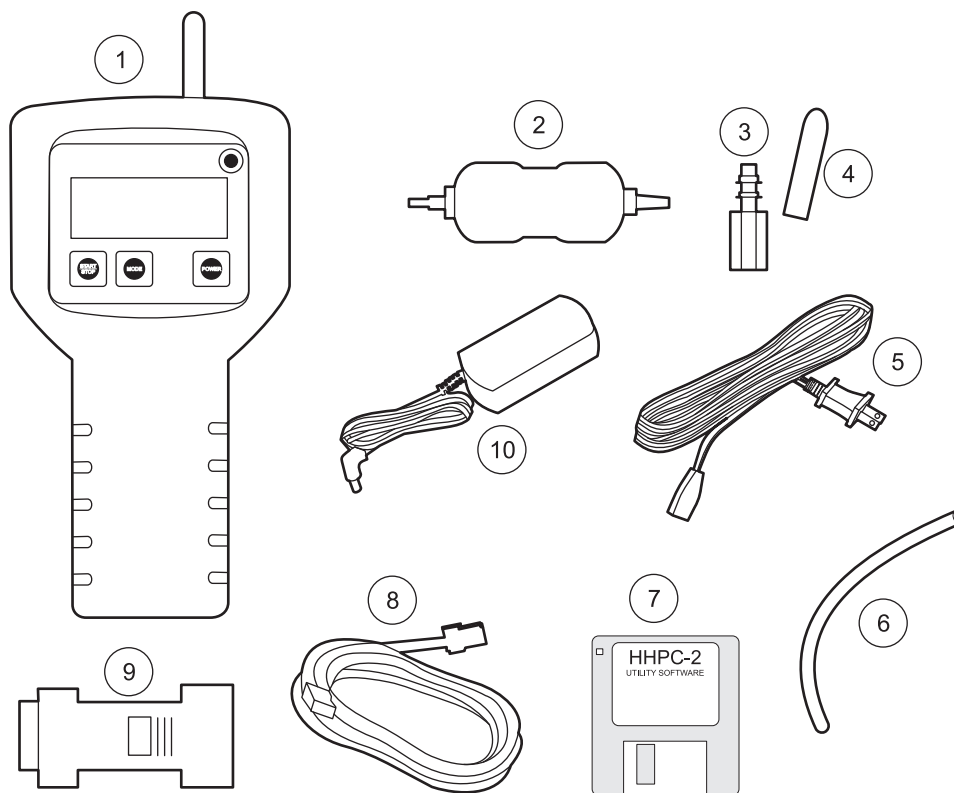

Figure 3 List of packaged items
Remove the components from the shipping container and inspect for damage. Verify that all the items listed in Figure 3 are included. If any items are missing or damaged, contact the manufacturer or sales representative.
In a clean-room application, the zero count filter (refer to Figure 3 on page 11, item 2) verifies if the MET ONE HHPC-2 is not counting electrical noise signals from internal components and is not subject to external interference. In indoor air quality and other applications, the zero count filter cleans out the sensor immediately after a high concentration sampling.